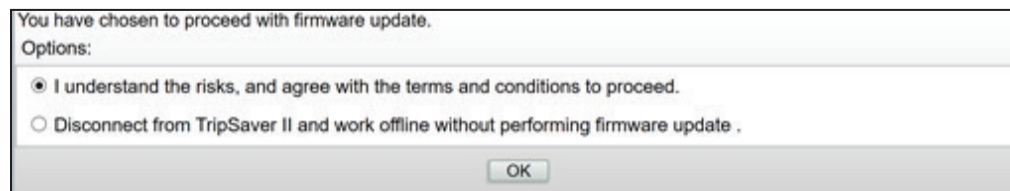

Figure 3. The firmware update Terms and Conditions dialog box.
- STEP 7.** A second dialog box will open. See Figure 3. Agree with the terms and conditions by selecting the appropriate option. Then, click on the **OK** button. To abort the firmware update, select the **Disconnect from the TripSaver II and work offline without performing firmware update** option and click on the **OK** button.